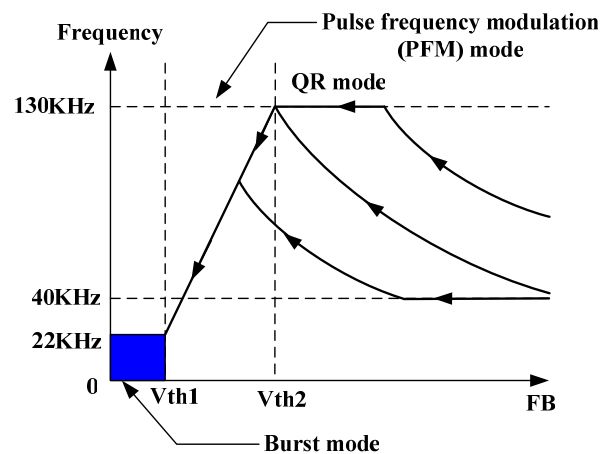

Figure 1
■ Under normal operating conditions ( $FB > V_{th2}$ , Figure 1), the system operates in QR mode. The frequency variation in QR mode is limited to the range of 40KHz ~ 130KHz due to the fact that frequency varies depending on the line voltage and the load conditions. Therefore, the system may actually work in DCM when 130KHz frequency clamping is reached. In contrast, the system may actually work in CCM when 40KHz frequency clamping is reached. System design should be optimized such that the operation frequency is within the range specified at full loading conditions and in universal AC line input range.
■ At light load condition ( $V_{th1} < V_{FB} < V_{th2}$ , Figure 1), the system operates in PFM (pulse frequency modulation) mode for high power conversion efficiency. In PFM mode, the “ON” time in a switching cycle is fixed and the system modulates